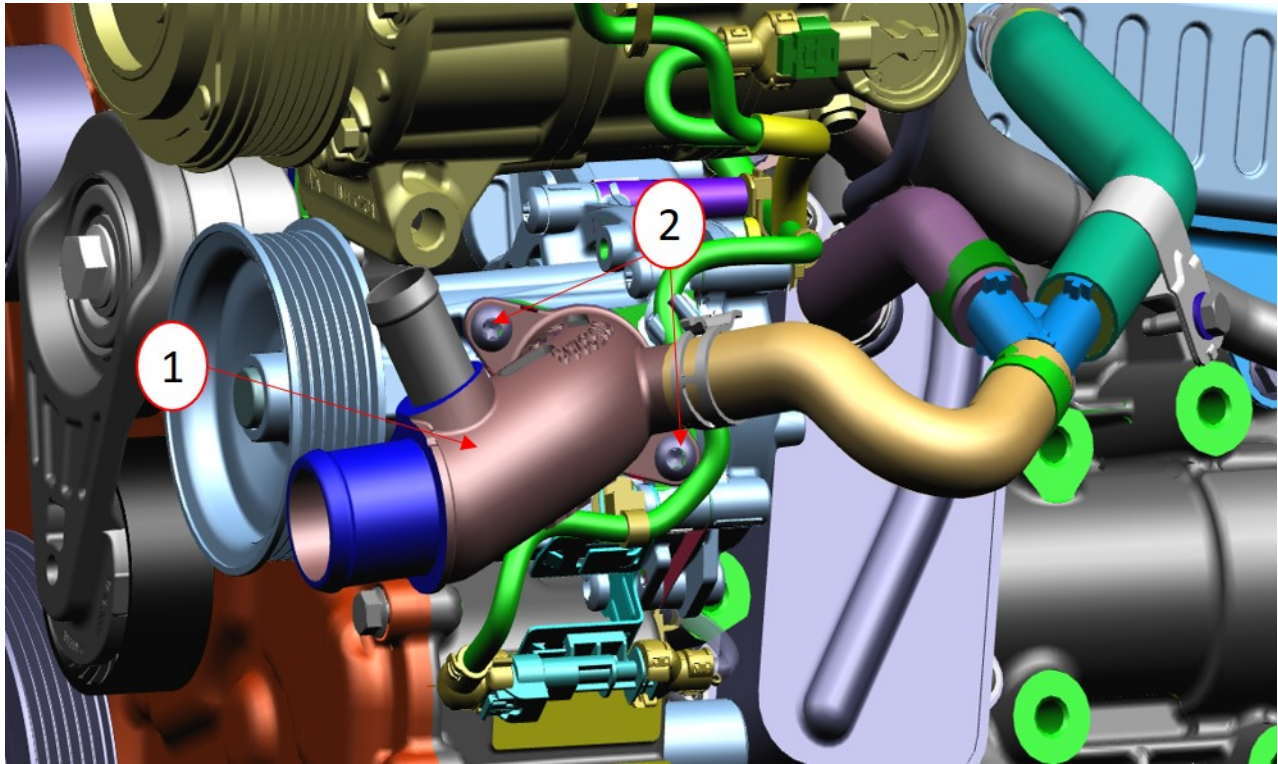

Fig. 1
2. Was coolant found to be leaking from the water pump inlet tube at the engine (Fig. 1) ?
1. Remove one inlet tube fastener (Fig. 1) .
9. Is coolant still leaking from the water pump inlet tube at the engine (Fig. 1) ?